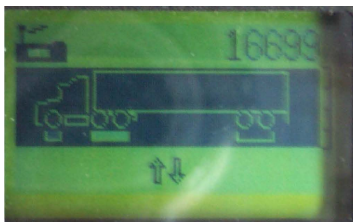

Figure 3
4. Hold **Center and Left** buttons for five seconds to **change the Rig**. Use the ↓ arrow buttons to toggle between the twenty six rig types. (Fig. 3, 4, 5 Page 6)